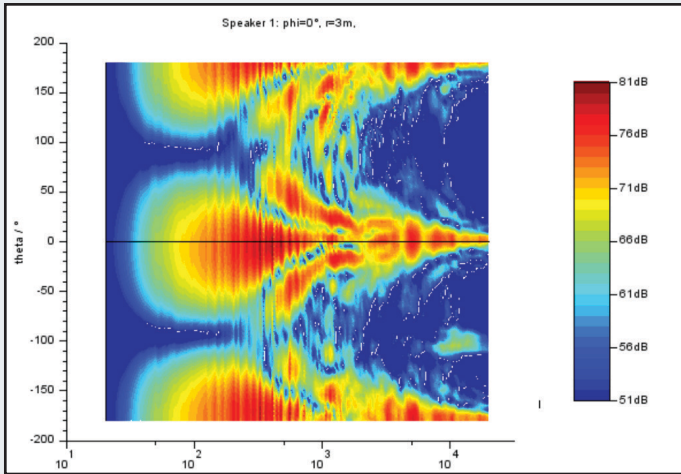

Figure 3: Unwrapped vertical contour balloon
**Figure 3** shows the unwrapped vertical contour map. Upon examining the vertical contour mapping, the collapse of the high-frequency radiation pattern from 80° at 1 kHz to about 20° is apparent, while the low frequency is consistent with the horizontal contour mapping.